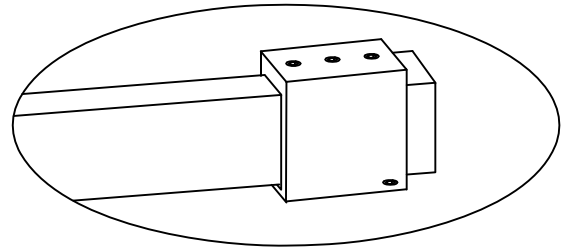

Fig. 17
17. Slide Rail End (5) onto Top Rail (2) and loosely tighten into place. Note: The Rail End (5) should be installed on Top Rail (2) so that the end of Rail End (5) with top and bottom set screws is facing outward. See Fig.17 for details